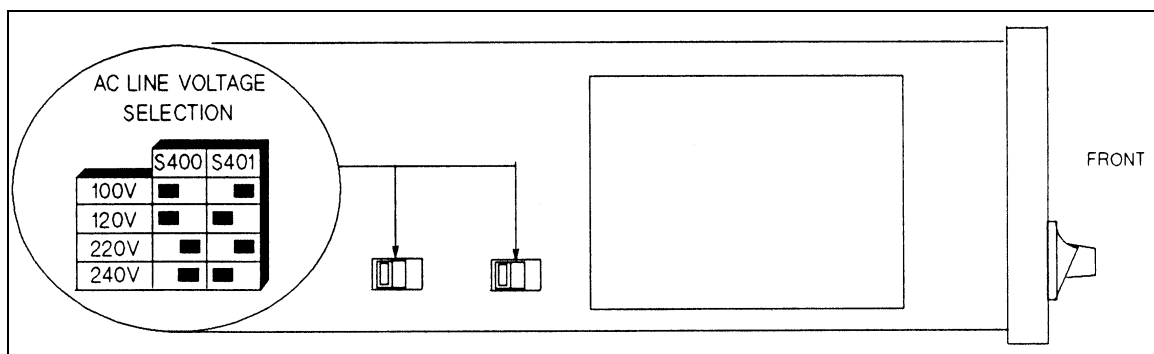
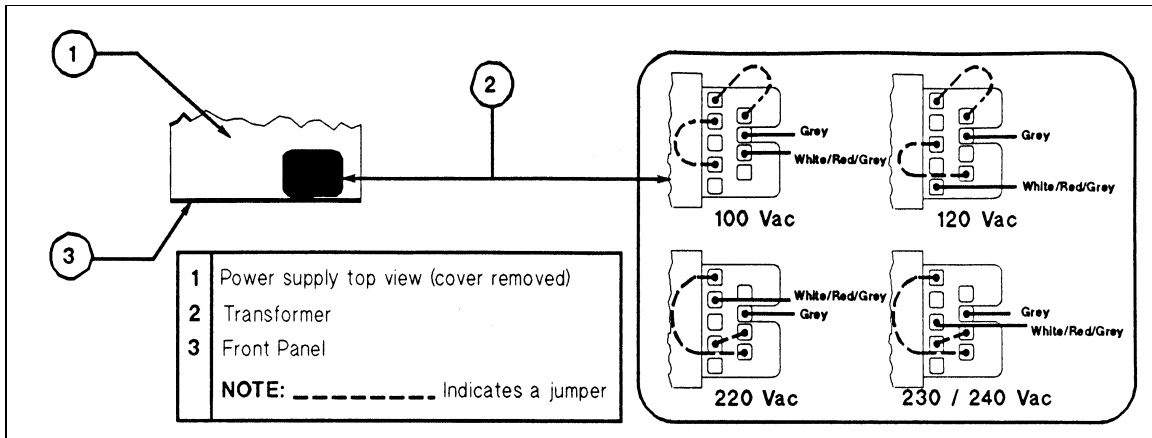

Figure B-1. Series 654xA Line Select Switches
Figure B-2. Series 655xA Line Select Jumpers
3. Slide the dustcover back far enough to expose the line select switches (see Figure B-1) or the line select jumpers (see Figure B-2).
4. On a Series 654xA supply, move the line select switches to the positions corresponding to the desired voltage (see Figure B-1).
5. On a Series 655xA supply, move the line select jumpers to the positions corresponding to the desired voltage (see Figure B-2).